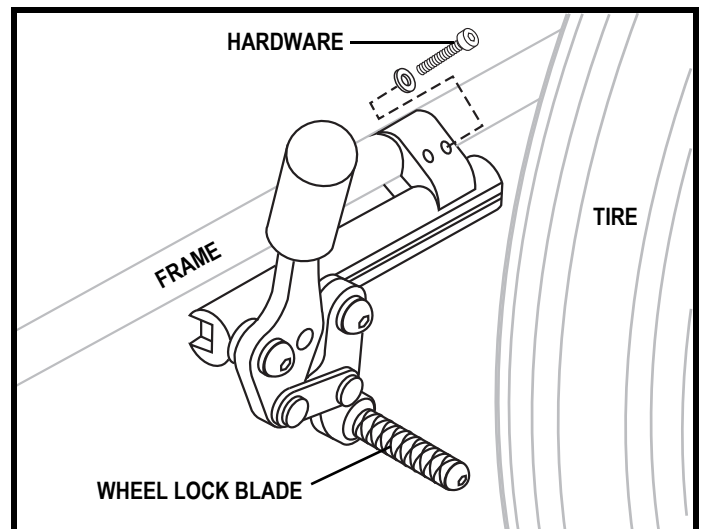

Figure 45. Wheel Lock Adjustment
2. Loosen the hardware that fastens the wheel lock to the frame. See figure 45.